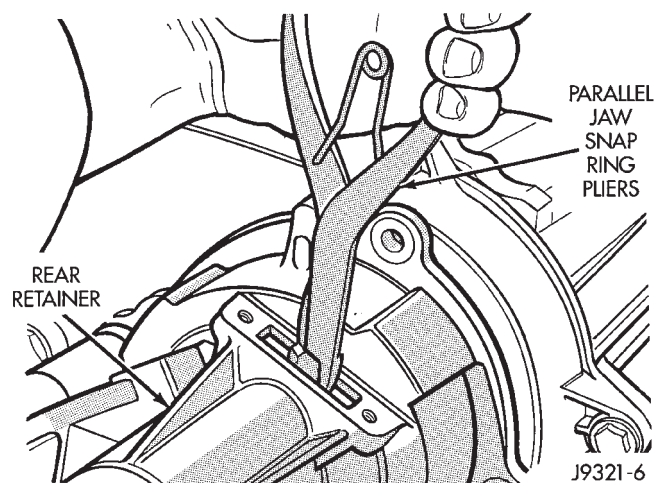
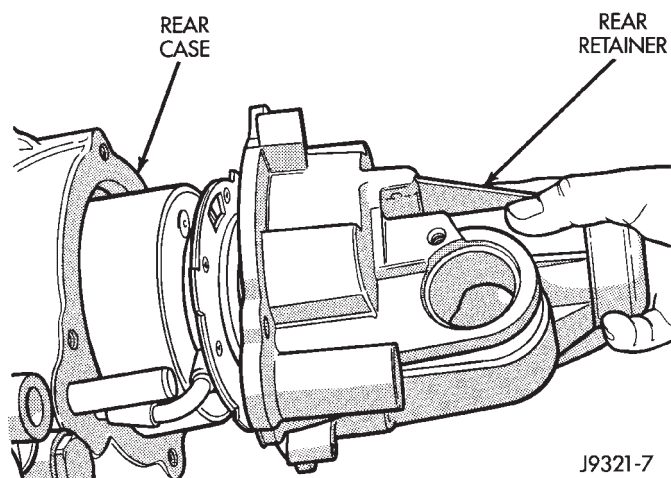

Fig. 6 Disengaging Rear Bearing Locating Ring
Fig. 7 Removing Rear Retainer
- (7) Remove rear retainer as follows: Spread rear bearing locating ring with snap ring pliers (Fig. 6). Then slide retainer off mainshaft and rear bearing (Fig. 7).